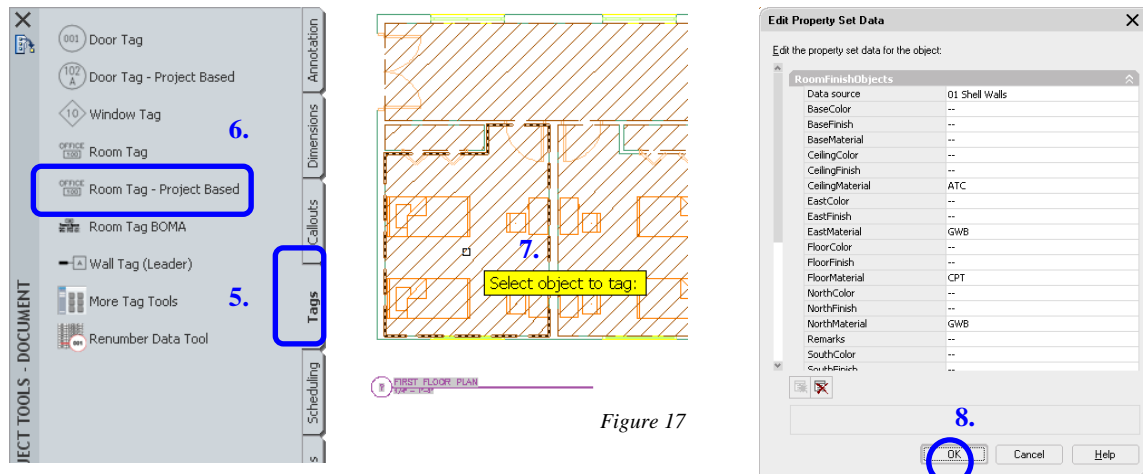

Figure 17
8. The **Edit Property Set Data** dialog box will open. Click the **OK** button to continue because you will notice that the values are already there. *Figure 17*